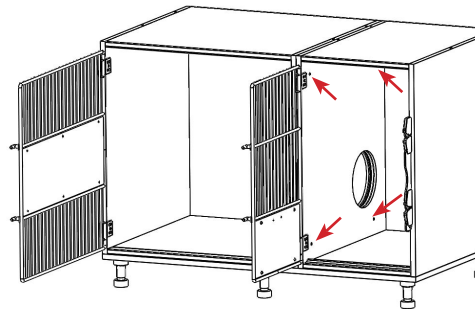

FIGURE 2.22 - Attach Litter to Living
STEP 6: Insert a barrel nut and #3 screw into each of the four pre-drilled holes in the side panel, secure both components together. See FIGURE 2.22